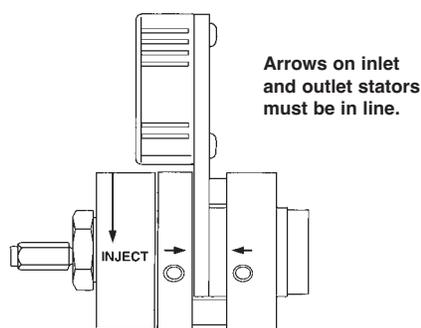

Fig. 9. Correct alignment of Rotor-Handle Assembly and Inlet/Outlet Stators.
- Slip the central pin on the rotor-handle assembly into the center hole in the inlet stator. Mount the assembly so the black knob faces the LOAD/INJECT arrow on the body ring label and faces down towards the injection port (see Figure 9).
d) Mount the outlet stator onto the two spacers. The arrows etched on the sides of the inlet and the outlet stators must line up (see Figure 9).